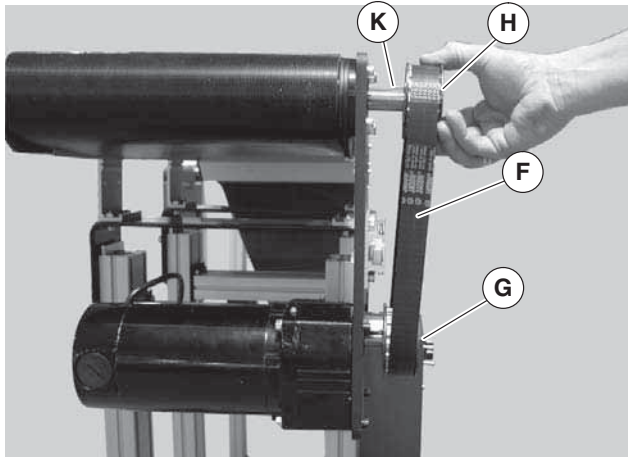

Figure 5
4. Install key (Figure 5, item K).
If drive pulley (Figure 5, item G) is replaced, wrap timing belt around drive pulley and complete step 3.